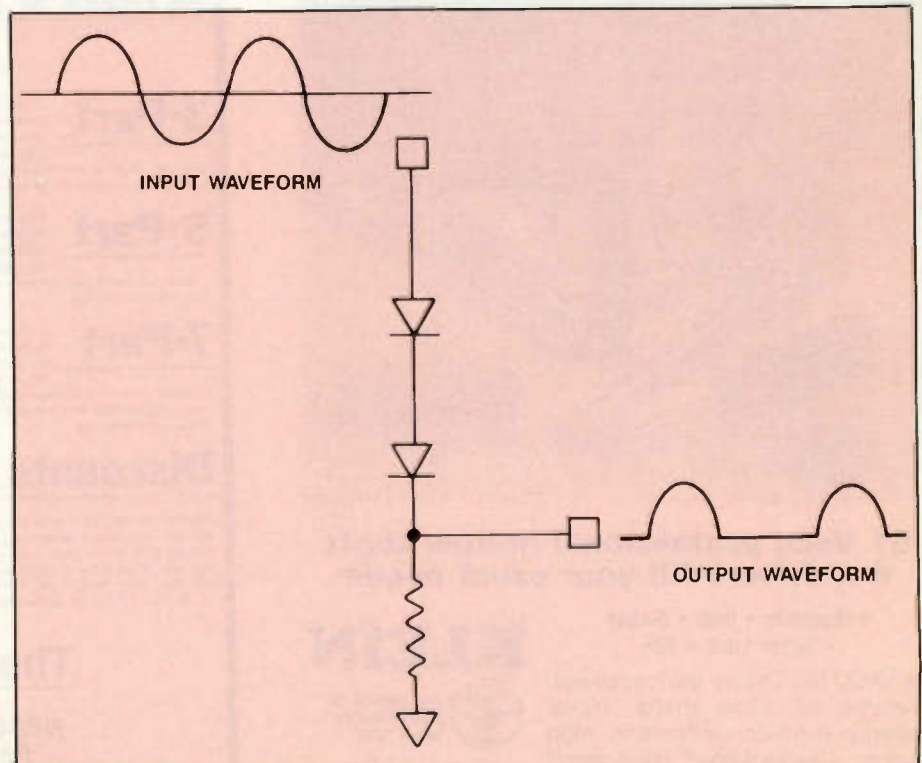

Figure 2.
3. The series connection in Figure 2 is used to reduce the peak inverse voltage across each diode. The diodes are the same type and have the same current ratings. During the half cycle of input when the diodes are reverse biased the reverse voltages across the diodes are not equal. Give two reasons for this.